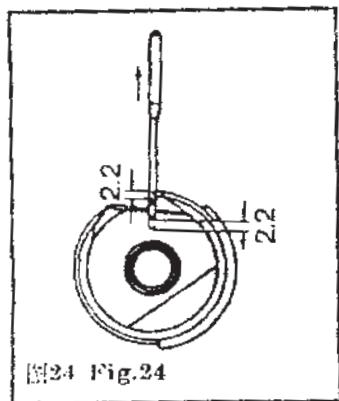

图24 Fig.24
- (1) 旋转的勾线点，应与机针的中心线一致；
- (2) 在此位置时，底线必须高于机针孔上边 2 毫米（图 24）。
- (1) Looping point of rotary hook should be in with the mid-line of needle;
- (2) Looping point should be 2mm higher than the hole of needle (Fig.24)
The top of feed dogs should be $0.8 \sim 1$ mm higher than the level of needle plate when the feed dogs rise in the highest position. If sewing special heavy or light materials, the gauge of feed dogs should be regulated. When adjusting, first loosen the fixed screw 2 (Fig.24) of lifting belt crank.